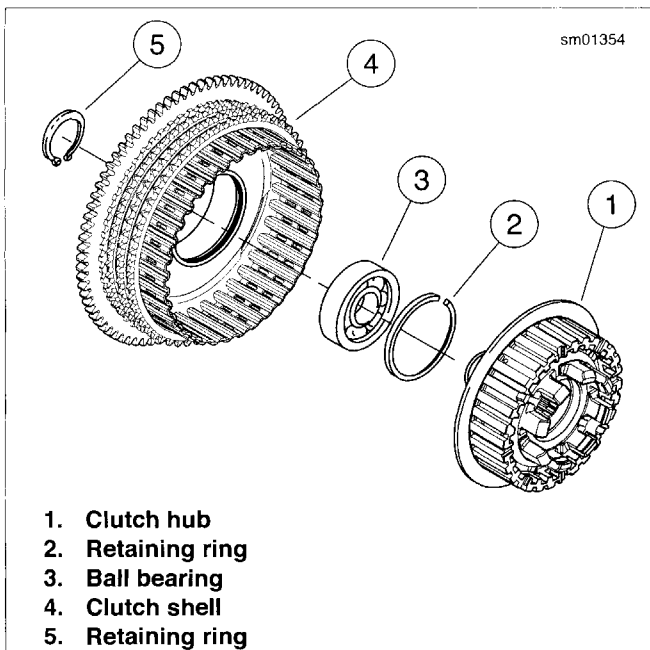

Figure 5-17. Clutch Hub and Shell Assembly
2. See Figure 5-17. If the clutch hub (1) and clutch shell (4) was disassembled, press **new** ball bearing (3) into clutch shell and secure bearing with a **new** retaining ring (2). Press inboard end of clutch hub into clutch shell bearing and secure with a **new** retaining ring (5) on end of hub.